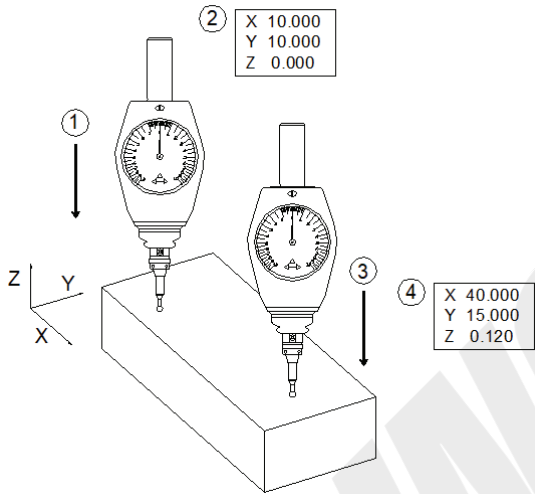

Figure 11
- If the probe is not in the start position, briefly lift the bellows for an air exchange before using (Figure 11, vacuum effect)